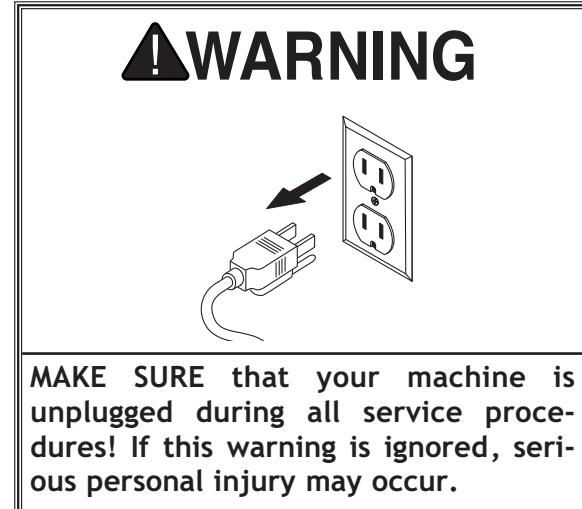

Figure 20. Fuse cap on control panel.
2. Remove fuse holder located on control panel (see Figure 20).